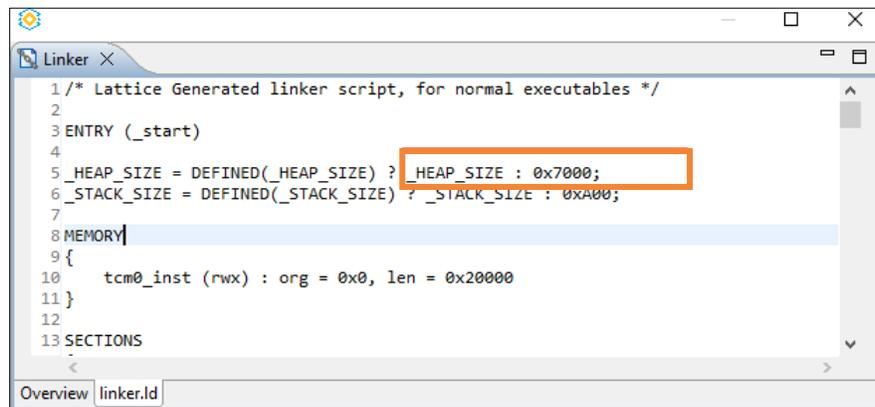

Figure 7.9. _HEAP_SIZE in Linker Script File
8. Open file `linker.ld` in the `src` folder. Set an enough value for `_HEAP_SIZE` (Figure 7.9).